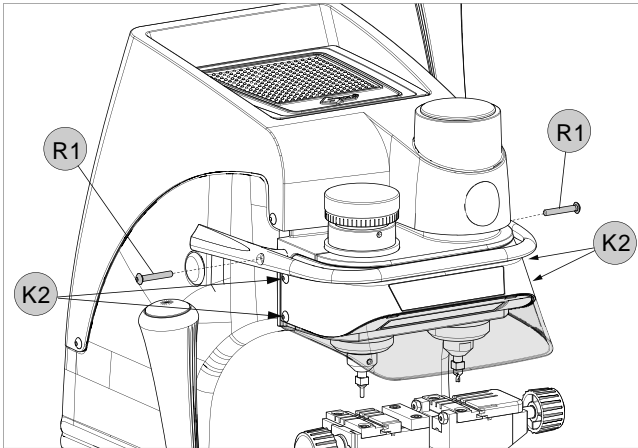

Fig. 38
- 2) Remove the 2 screws (R1) securing the rollbar (Fig. 38).